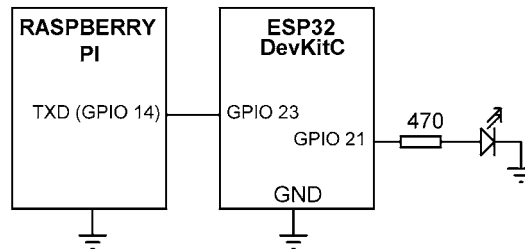

Figure 14.8 Circuit diagram of the project
Circuit diagram: Figure 14.8 shows the circuit diagram of the project. The LED is connected to GPIO 21 of the ESP32 DevKitC. Serial port output TXD (GPIO 14, physical pin 8) of the Raspberry Pi is connected to GPIO 23 of the ESP32 DevKitC. The ESP32 DevKitC has 3 UART pins as follows:
- Build the circuit as shown in Figure 14.8. Click the button of the **inject** node ON#, the LED should turn ON. Click the button of the **inject** node OFF#, the LED should turn OFF.